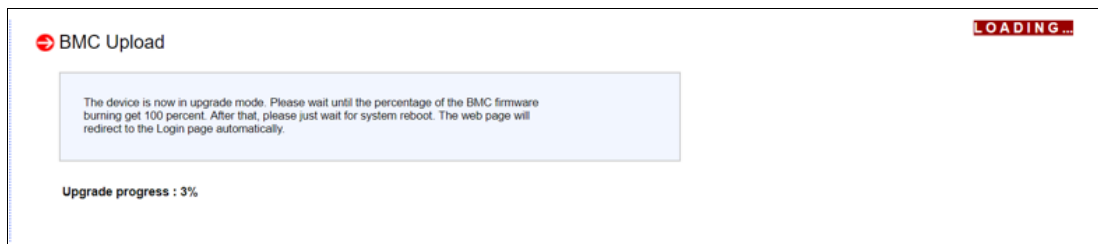

Figure 4-4 BMC Upload window: Update progress
6. The upgrade progress of the firmware update is shown in Figure 4-4. After the BMC update is complete, the system restarts.